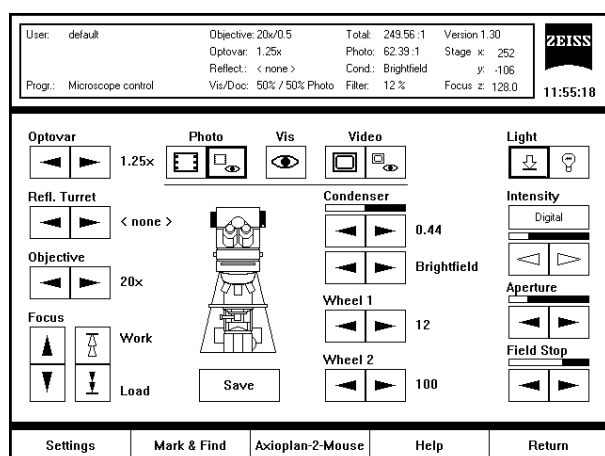

Fig. 61 Microscope Control program module
- Click on the **Save** button in the **Microscope Control** module (Fig. 61).